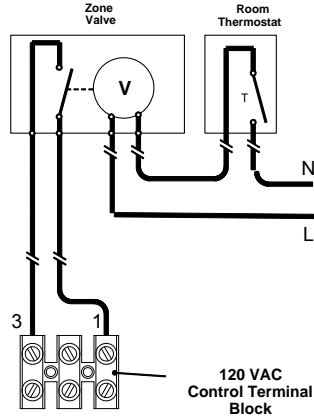

Figure 12.11
- Connect the micro switch of the zone valve to terminals 1 and 3 as shown in figure 12.11
- Connect the zone valve switch to the room thermostat as shown in figure 12.11